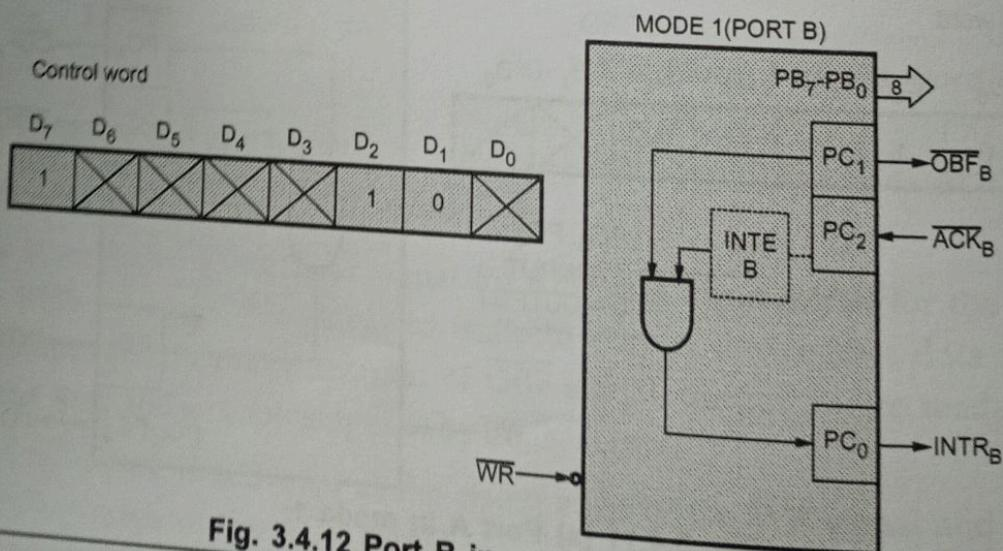

Fig. 3.4.12 Port B in mode 1 (Output)
- $INTR_A$ is an active high output of the 8255 which is made high (if the associated $INTE_A$ flip-flop is set) when \overline{ACK}_A is made high again by the peripheral, and when OBF_A goes high again (see timing diagram in Fig. 3.4.12 (b)). It can be used to interrupt the CPU whenever the output buffer is empty. It is reset by the falling edge of WR when the CPU writes data onto Port A. It can be enabled or disabled by writing a '1' or a '0' respectively to PC_6 in the BSR mode.
- Fig. 3.4.12 shows Port B as an output port when in Mode 1. The operation of Port B is similar to that of Port A.